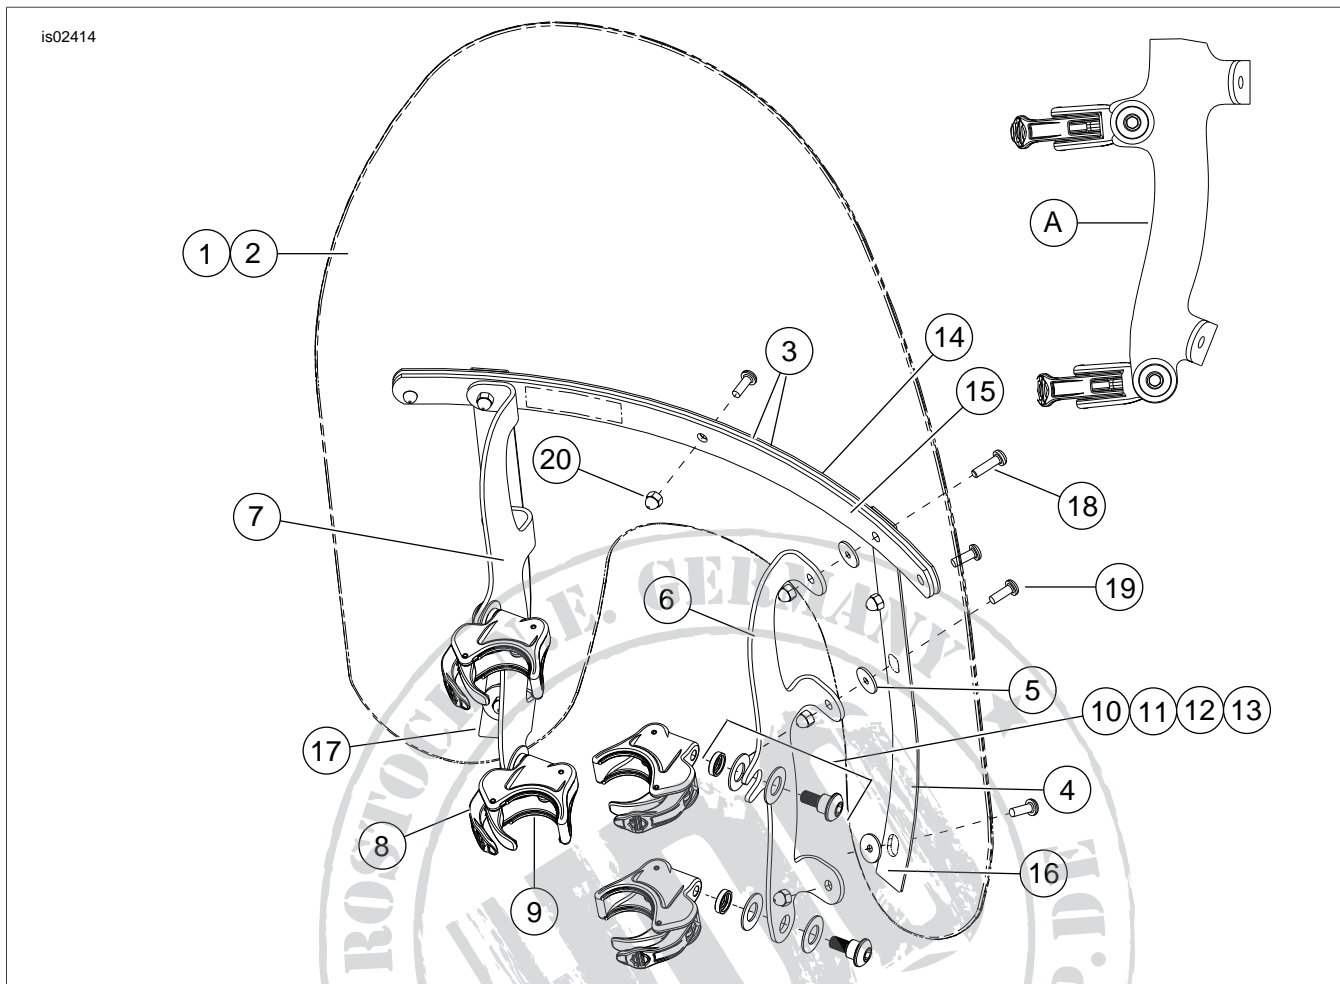
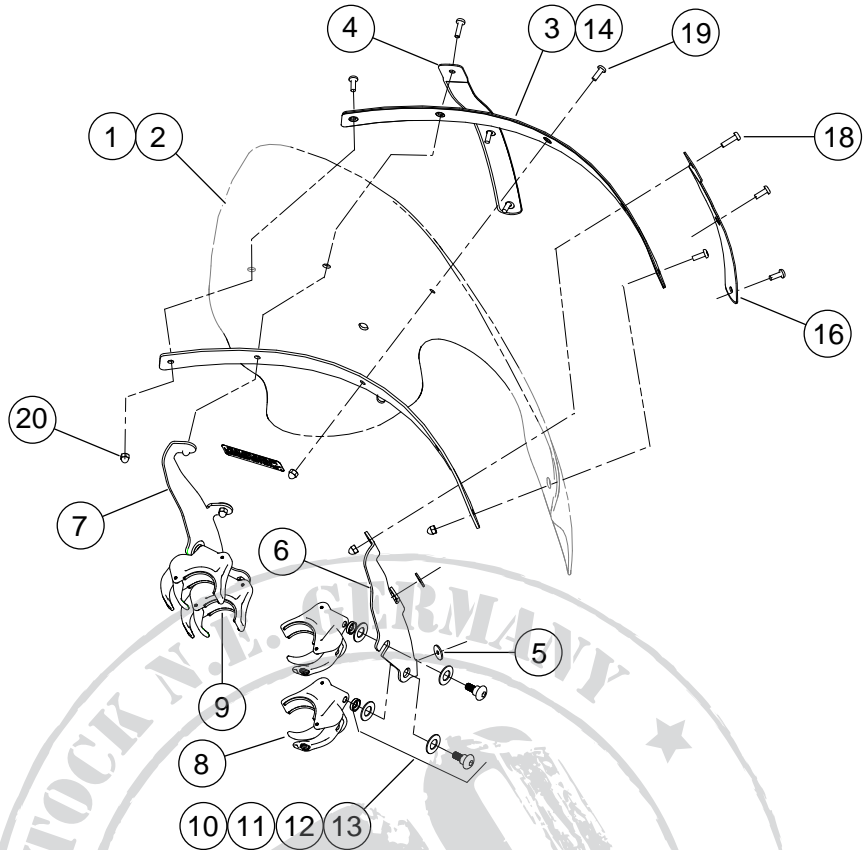
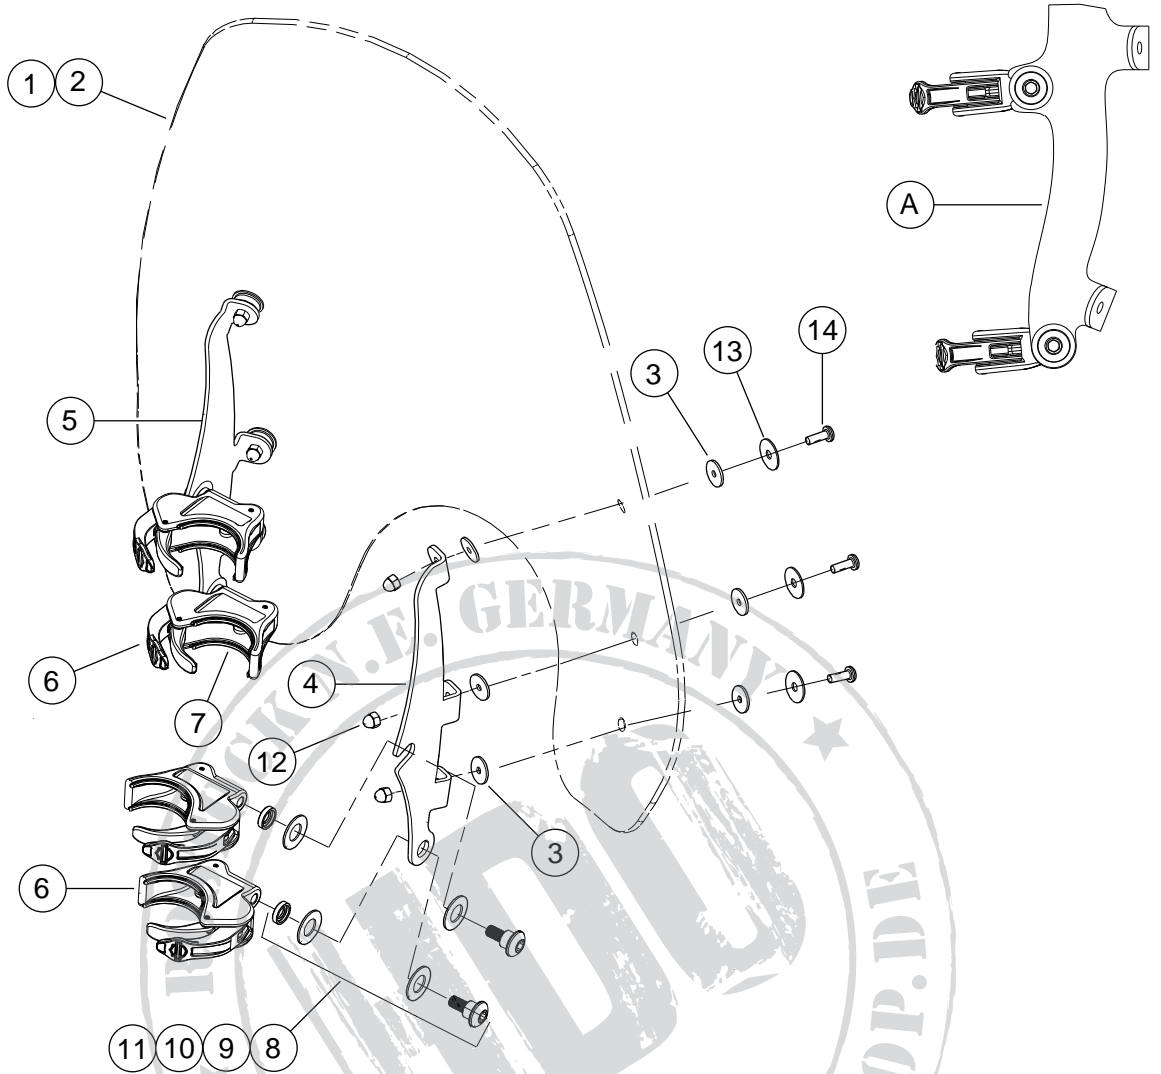

Figure 3. Service Parts: Compact Quick Release Windshield Kits
Figure 4. Service Parts: Touring Quick Release Windshield Kits
Figure 5. Service Parts: Super Sport Quick Release Windshield Kits
See Figure 3 and Table 2, Figure 4 and Table 3, Figure 5 and Table 4, Figure 6 and Table 5.
2. See Figure 3, Figure 4, and Figure 5. Remove both the clamp and hardware kits from the packaging, and separate similar parts in preparation for assembly.